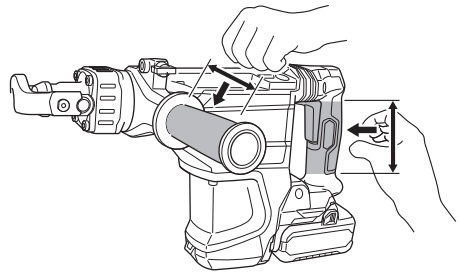

Fig. 1
22. Make sure to securely hold the tool as shown in Fig. 1 during operation.